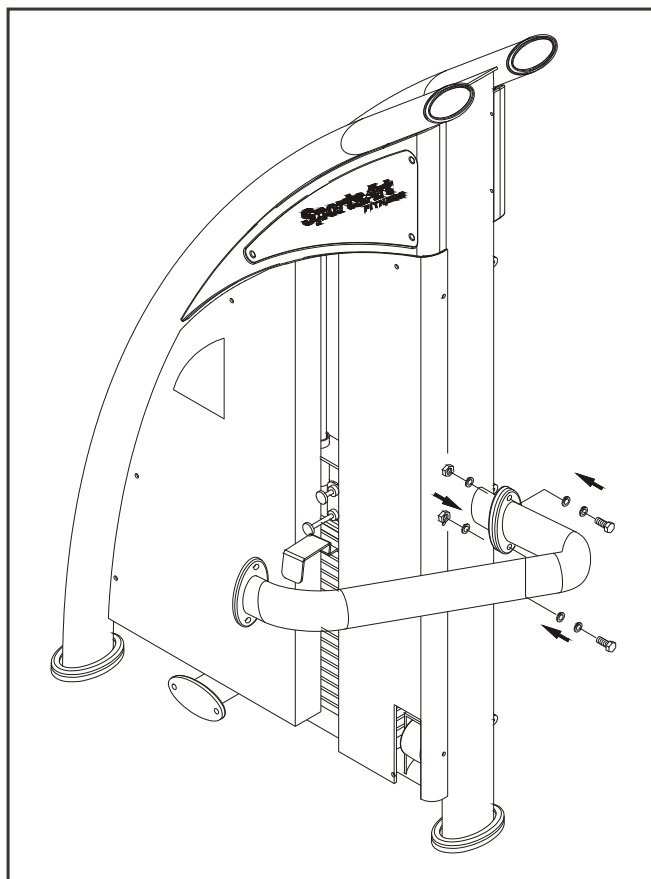

Fig.1
2. Hold the frame during assembly and tighten the connection host with the screws provided (item 5,6,7 as listed in parts list). (See Fig. 1)